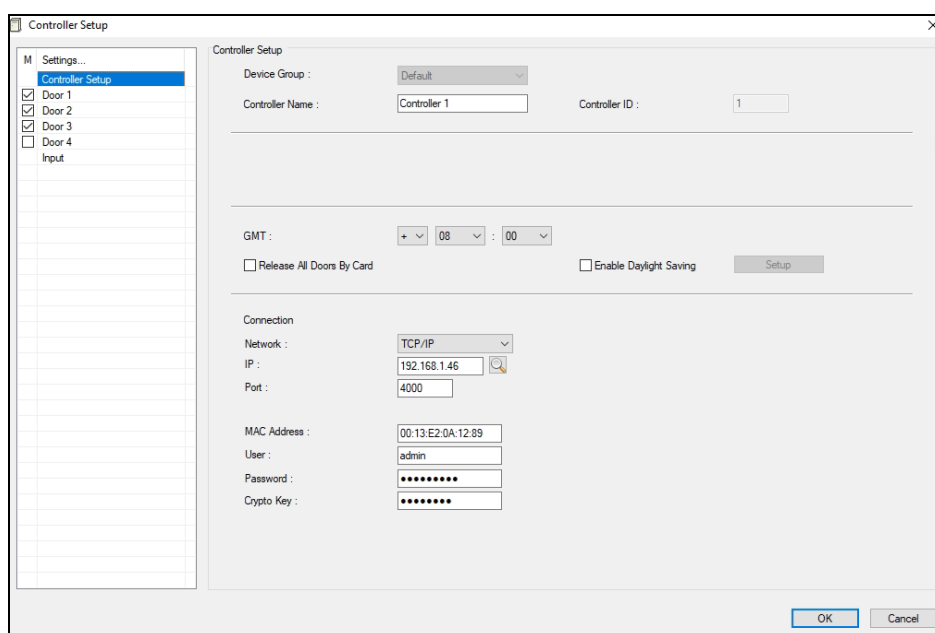

Figure 4-4
- Card or Common Mode:** This mode requires the user to present the card **or** enter the door's common password (see Figure 4-4), plus # to enter the setting, using the keypad.